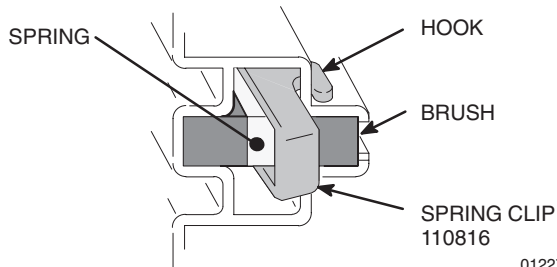

Fig. 12 01227
3. Push in spring clip to release hooks from brush holder. Pull out spring clip. See Fig. 12.